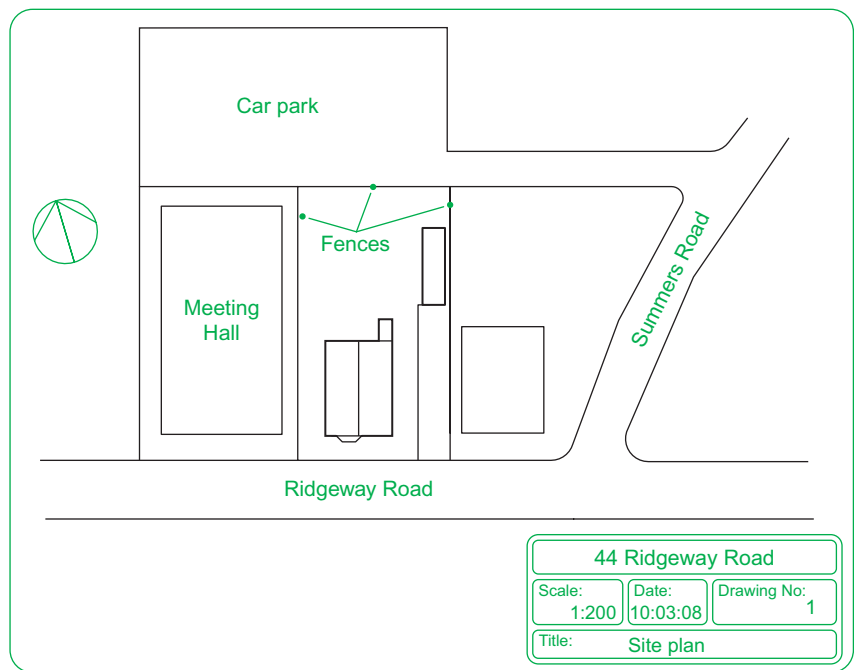

Fig. 16.1 A site plan
1. A site plan of the original two-storey house, drawn to a scale of **1:200** (Fig. 16.1).